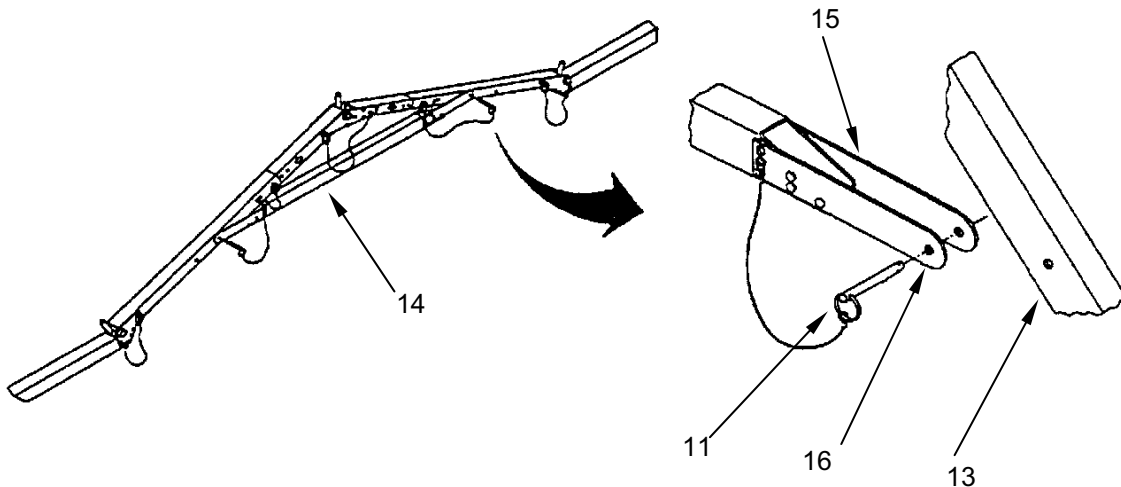

Figure 5. Header Assembly.
1. Identify the header assembly (**Figure 5, Item 14**).
2. Slide the header assembly end plates (**Figure 5, Item 15**) over arch assembly (**Figure 5, Item 13**).
3. Align arch assembly (**Figure 5, Item 13**) and header assembly end plate holes (**Figure 5, Item 16**) and insert quick release pin (**Figure 5, Item 11**).